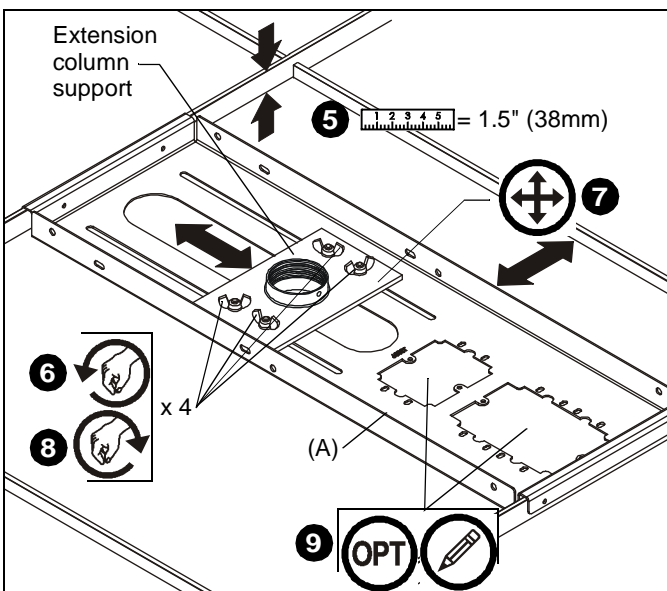

Figure 2
3. Press center tip of ceiling tile cutter (M) into *finished* side of ceiling tile at marked location. Cut extension column hole through tile using back and forth hand twisting motion.
5. Install CMS440 assembly (A) on top of ceiling tile so that end brackets engage primary (1-1/2" (38mm) high) rails of ceiling framework. (See Figure 2)
6. Loosen four wing nuts in upper side of CMS440 assembly (A). (See Figure 2)
7. Position CMS440 assembly (A) and/or extension column support (as required) to center support over ceiling tile hole. (See Figure 2)
8. Tighten wing nuts (See Figure 2).
9. **OPTIONAL:** Mark location of electrical cutout on ceiling tile with pencil. (See Figure 2)